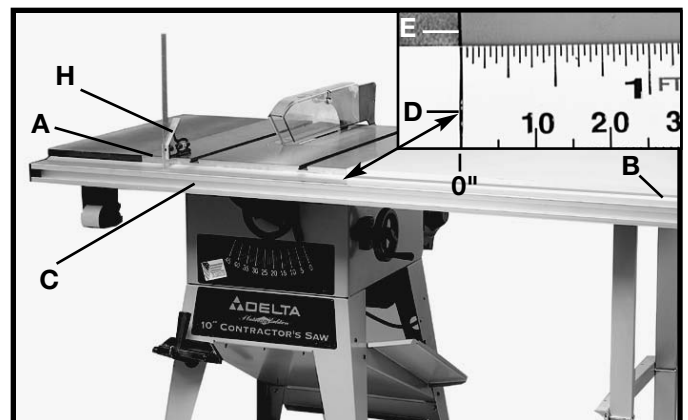
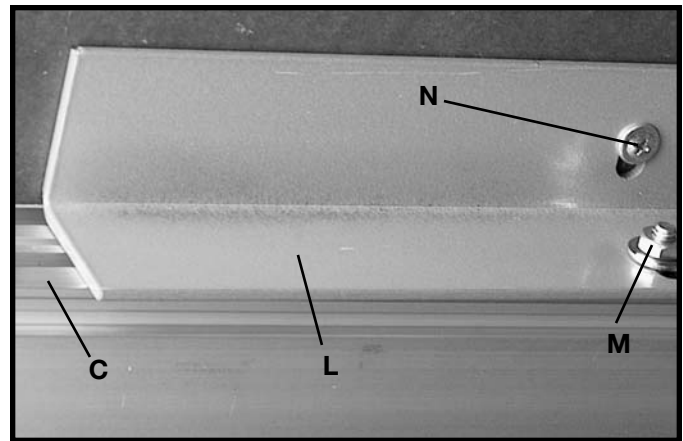

Fig. 62
Fig. 63
6. Adjust the guide rail (C) Fig. 62 parallel with the saw table surface by placing a square (H) on the saw table at both the left front end of the saw table (A) and the right front end of the extension table (B), with the rule of the square against the flat surface on top of the guide rail. The guide rail (C) Fig. 62, can be adjusted up or down slightly at either end. After being certain the guide rail is parallel with the table surface, firmly tighten the two hex nuts that fasten the guide rail to the table. **Note:** Make sure 0" (D) on the unifence scale is aligned with the right edge of the saw table (E).
7. Move the square (H) Fig. 62, to the end of the Unifence table and check to make certain the same distance is kept from the top surface of the extension table (K) to the top surface of the guide rail (C). Move the front table support (L) Fig. 63, against the guide rail (C), and fasten with 1/4-20 nut and flat washer (M). Tighten two screws, one of which is shown at (N) Fig. 63, that fasten the Unifence table to the guide rail.